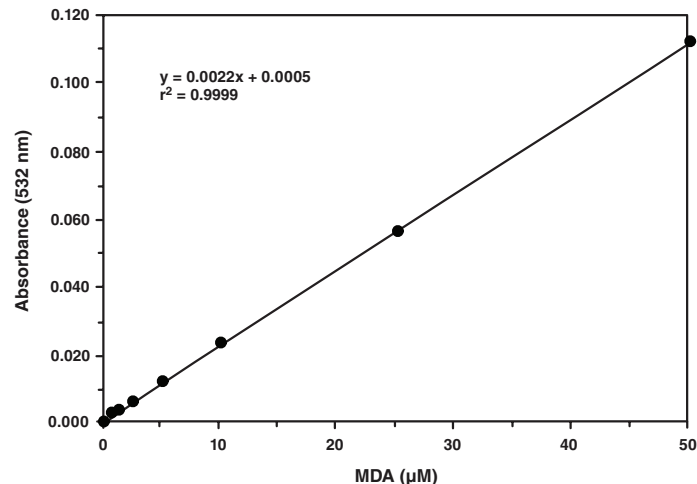

Figure 3. MDA colorimetric standard curve
4. Calculate the values of MDA for each sample from the standard curve. An example of the MDA standard curve is shown on page 17 in Figure 3.